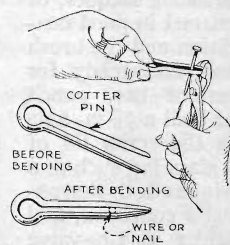

Fig. 6. Cotter pins can't slip out if nail is put between the split points.
**A**N EASY way to fix cotter pins so they may be slipped into tight holes is shown in Fig. 6. Place a nail or small piece of wire between the split points and squeeze the tips together with a pair of pliers as shown. This method is especially useful when the cotter has to be pushed into a hole hard to get at.